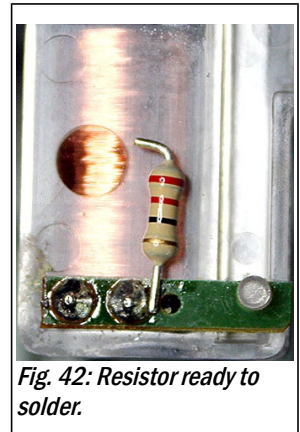

Fig. 42: Resistor ready to solder.
- ☐ Orient the movement as shown in with the motor terminals closest to you. Lay the resistor on the clear housing so the bent lead is near the hole on the housing, and bends toward the left. See Fig. 42.